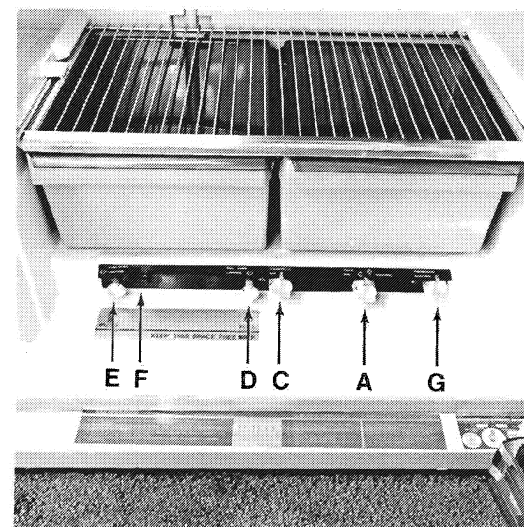

Fig. 1 — Controls Inside Refrigerator
**For gas operation,** follow these instructions (See Fig. 1.):
2. To start the refrigerator turn the valve knob (A) to gas position. The gas valve is now open and the electric circuits are not in use. Set thermostat knob (C) to setting No. 4.
3. Pull knob (D) of the automatic pilot, and keep it out for 15 seconds. Press in knob (E) of the piezo lighter. The pressing may have to be repeated.
4. After the burner is lit, which can be seen through reflector window (F), keep the knob (D) pulled outward for an additional 15 seconds.
5. Release the knob (D) and check that the